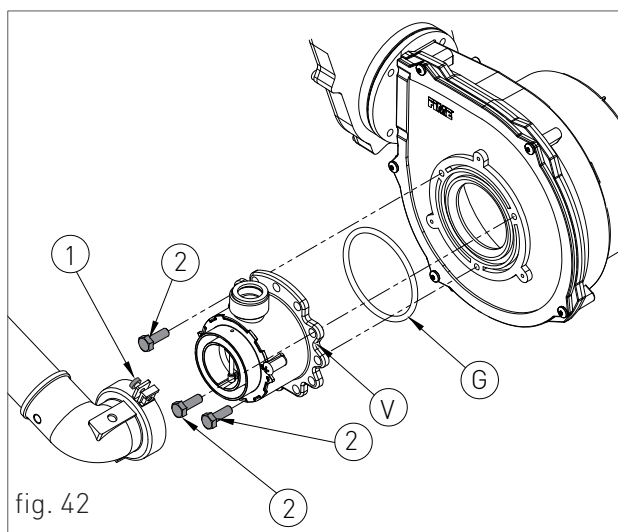
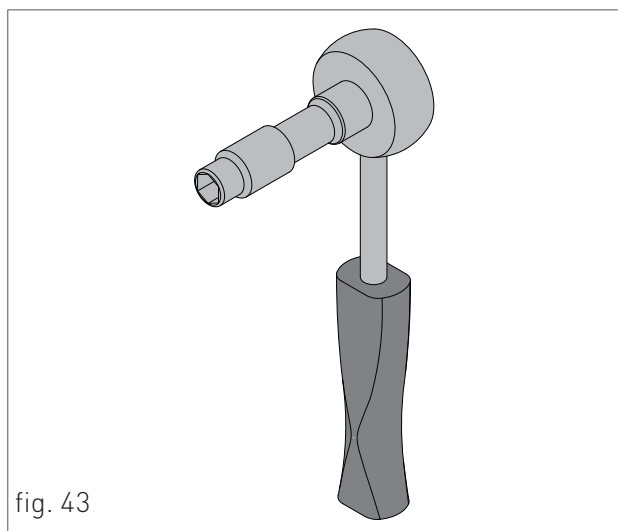

fig. 42
fig. 43
- › loosen the two screws '1' (fig. 42) from the fastening clamp, and remove the air suction tube;
- › unscrew the three fastening screws '2' (fig. 41) of the venturi 'V' (fig. 42) using a 10 key, as shown in figure 43;
- › remount the components following the demounting operations in reverse making sure that gasket 'G' is re-assembled as shown in fig. 42;